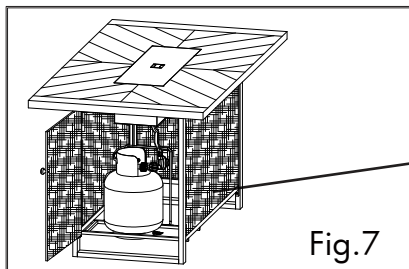

Fig.7
- 4 - Turn the butterfly nut on the cylinder frame, so that the nut is held against the bottom of the cylinder, to make sure the cylinder can be fixed. See Fig 7.